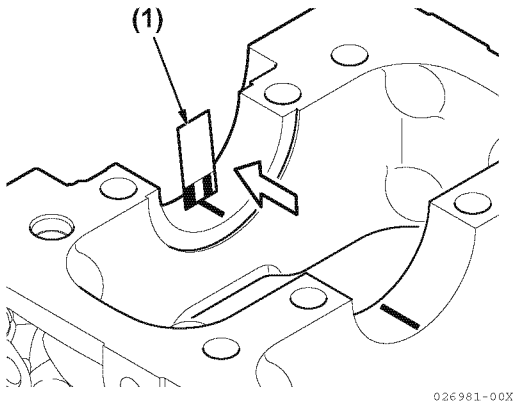

Figure 6-57
9. Compare the width of the flattened PLASTIGAGE (**Figure 6-57, (1)**) to the graduation marks on the package. The mark that most closely matches the width of the flattened PLASTIGAGE will indicate the bearing oil clearance. Record the measurement. See *Crankshaft* on page 6-8 for clearance specifications.